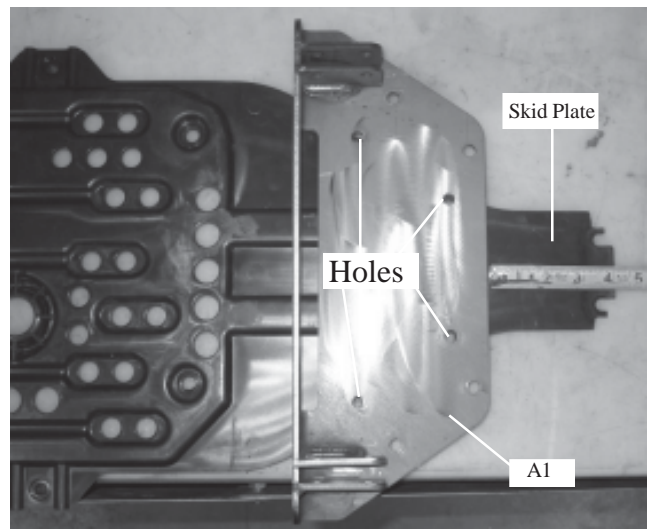
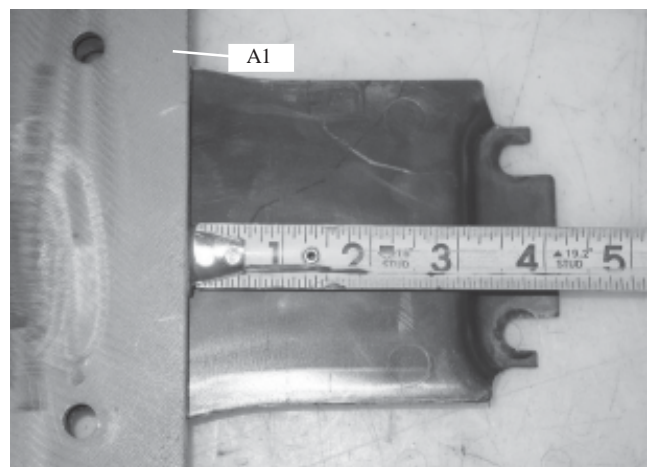

Figure 2
Figure 3
2. Place the plow mount (A1) on the skid plate, Figure 2.
3. Center the plow mount (A1) and place it as shown, Figure 3. Mark the four hole locations from the plow mount onto the skid plate, Figure 2.